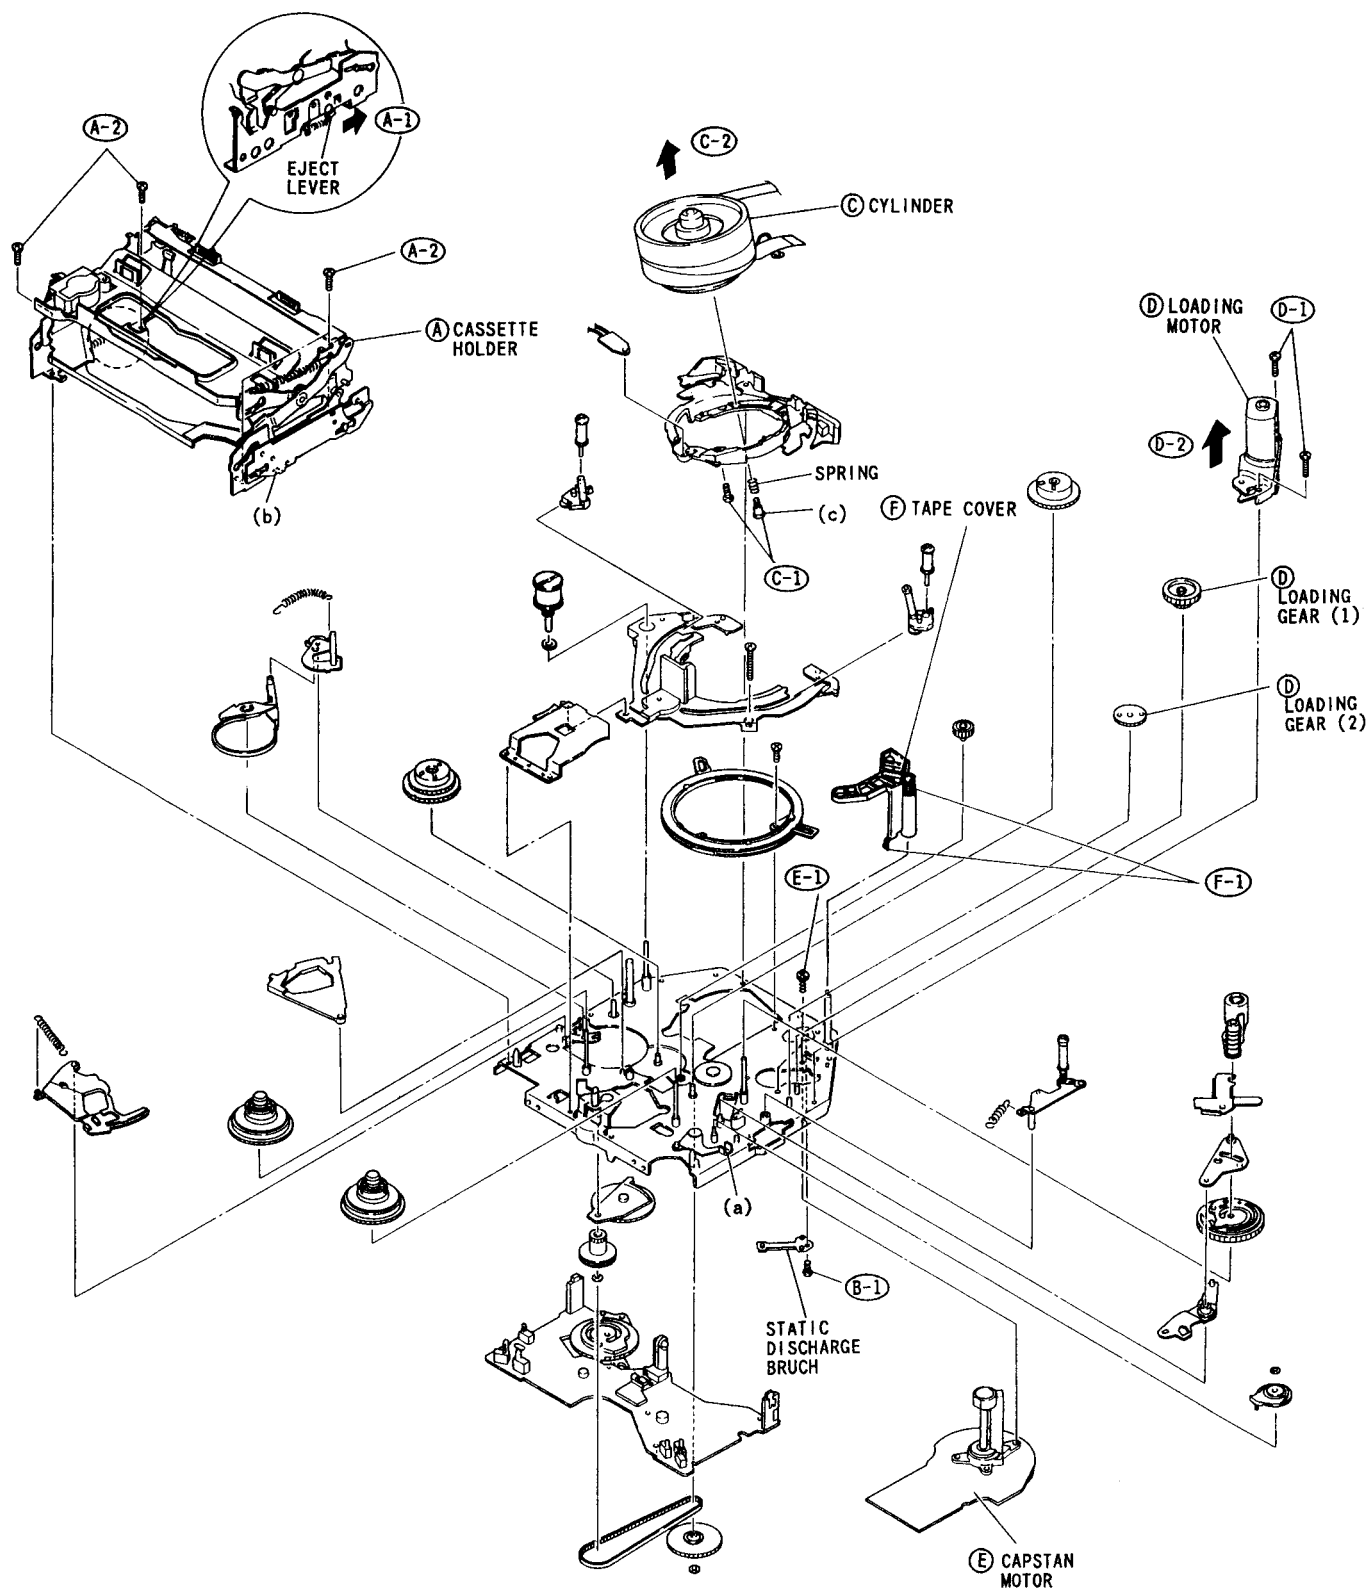

Fig. 4-2
4.1.1 Cassette Holder, Static Discharge Brush, Cylinder, Loading Motor, Loading Gears (1) and (2), Capstan Motor and Tape Cover Removal
A. Cassette Holder (Fig. 4-2)
- 2) Remove four (4) screws.
B. Static Discharge Brush (Fig. 4-2)
- 1) Remove one (1) screw.
C. Cylinder (Fig. 4-2)
- 1) Remove two (2) screws.
D. Loading Motor, Loading Gears (1) and (2) (Fig. 4-2)
- Loading Motor and Loading Gears (1) and (2) 4-2
- 1) Remove three (3) screws. (See Fig. 4-2)
F. Tape Cover (Fig. 4-2)
- 1) Release two (2) tabs.